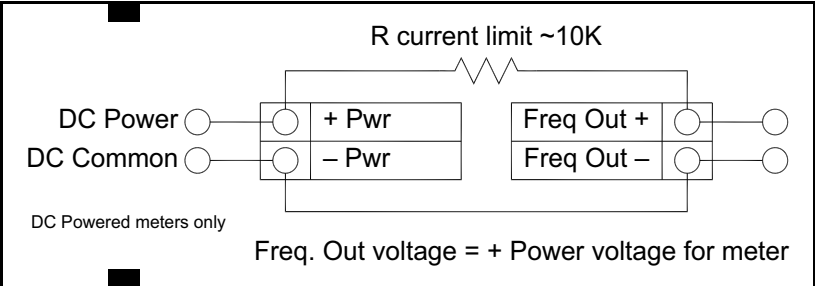

Figure 40: Non-Isolated Frequency Output Using Input Power Supply
- For DC powered meters only, use the flow meter power supply (see Figure 40 on page 43). Use this option if the voltage at the flow meter power supply is an acceptable driver voltage for the connected load, taking into account that the current used by the connected frequency counter comes from the meter's power supply.